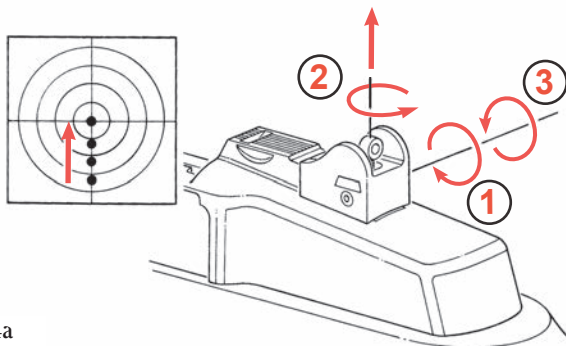

Figure 24a
2. Adjust the aperture by rotating it in half turn increments. Rotating the aperture clockwise will move the aperture down (and therefore the point of impact down as well). Rotating the aperture counter-clockwise will move the aperture up (and therefore the point of impact up). (See Figures 24a and 24b.) Rotating the aperture a single half turn (180 degrees) will move the point of impact approximately 1.25 inches at 100 yards.
3. Tighten the Combination Windage Adjustment and Locking Screw that was loosened in Step One (See Figures 24a and 24b). The Aperture will move against the other screw and will be aligned to the half turn position.